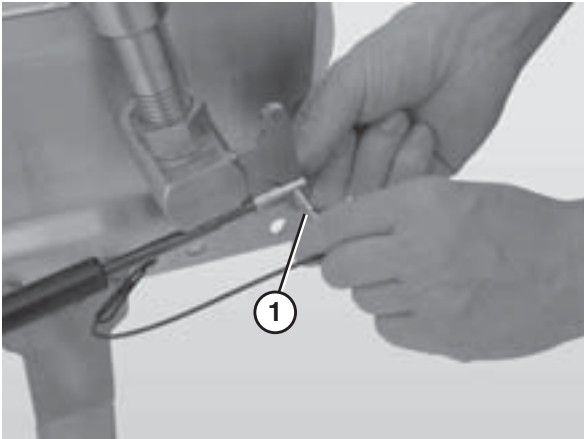

Figure 91
2. Remove the pull pin (Figure 91, item 1).